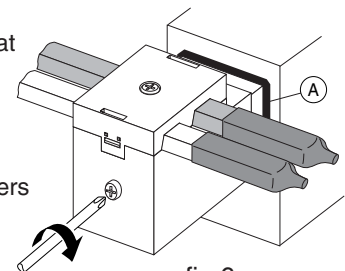

fig.6
- Check that gaskets are fitted (Item A) and that connectors and covers are tight (Fig.6).